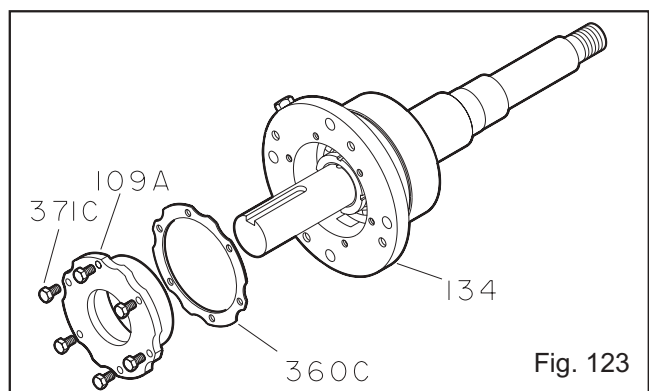

Fig. 123
7. Install gasket (360C), end cover (109A), bolts (371C). Refer to Table 9 for bolt torque values. Check shaft for free turning (Fig. 123).